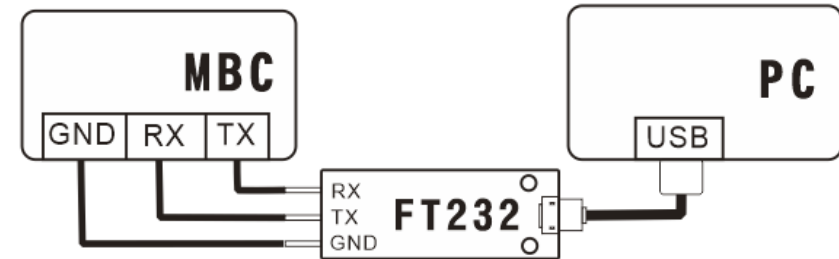

Figure 4. UART Connection
2. Use UART accessories to connect the controller to PC as shown in Figure4.